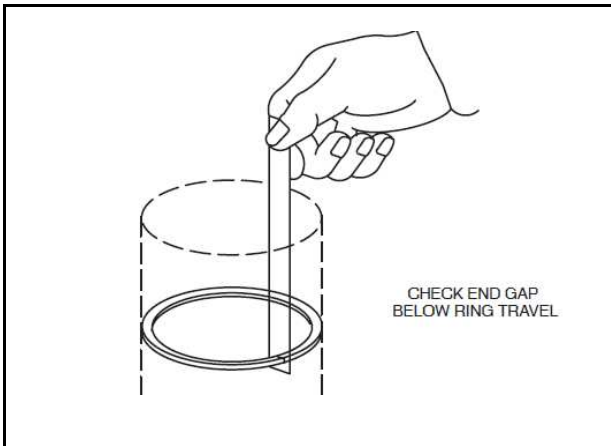

Fig. 4 - Checking End Gap
2. Check ring end gap, Fig. 4.